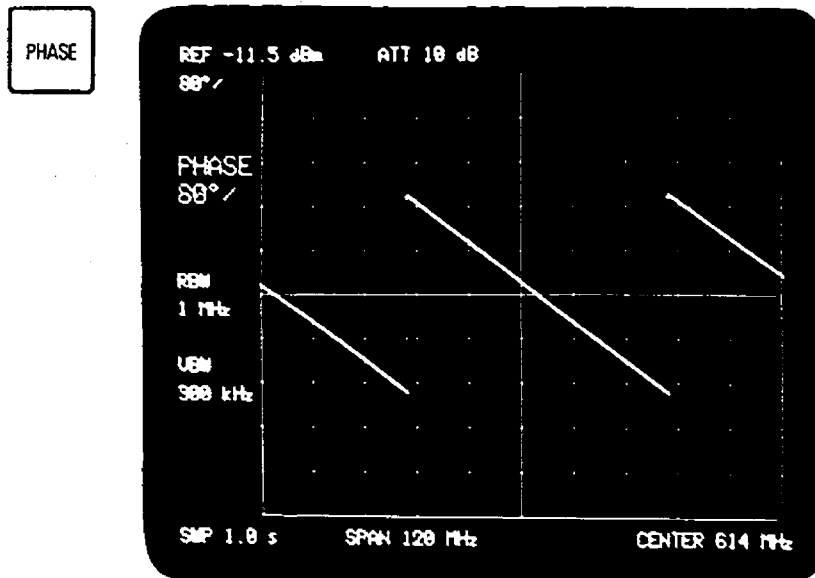

Fig. 6-1 Phase in rotation
- ① Set center frequency, frequency span, resolution bandwidth, sweep time, and other necessary conditions.
- ② Connect the TRACKING GENERATOR OUTPUT to the input of the device under test (amplifier or filter), and connect the output of the device under test to the INPUT of the analyzer. Activate the tracking generator.
- ③ Press the NORMAL key to measure the pass-band response of the device under test. According to the measurement result, select the appropriate T.G. LEVEL and INPUT ATT. level.
- ④ Then press the PHASE key to select the phase measurement mode. The display will present measurement range $XX^0/$ at its top left corner, and the indicator lamp just above the PHASE key will illuminate. In the Phase Measurement mode press the SWEEP TIME key to manually select the appropriate sweep time (the AUTO mode is programmed for amplitude measurement).
- ⑤ For more precise phase measurement without the affect of phase error of the measuring system, disconnect the device under test from the measuring setup, then connect the input and output cables by using an inline plug adapter to check the phase response of the measuring system itself.
- ⑥ If phase rotation is observed as shown in Figure 6-1, press the kHz G.D. OFFSET key to activate the electrical length.